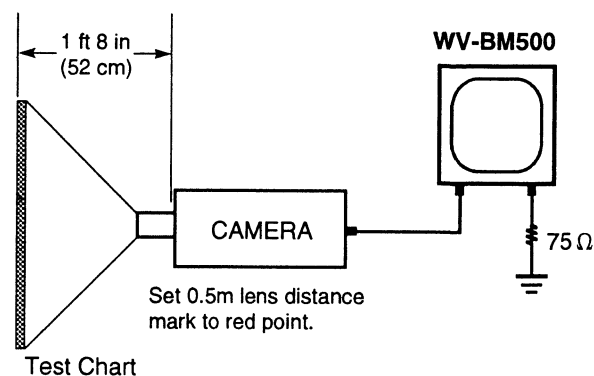

Fig. 3-1
- The Fig. 3-1 shows the connecting diagram for adjustment procedure of the WV-BM500 using the Video Camera.